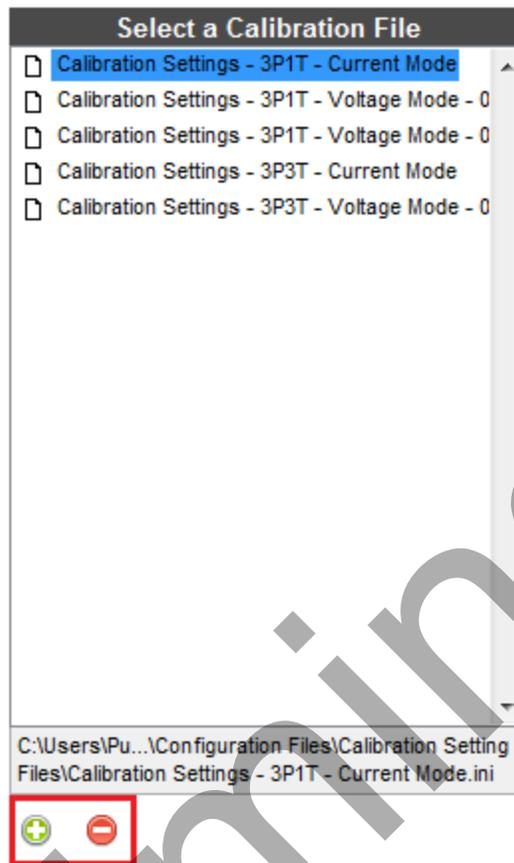

Fig 52: Add or Remove Calibration Settings File
2. To add a new settings file or remove an existing file, *Add* button or *Remove* button can be used as highlighted in *Fig 52: Add or Remove Calibration Settings File*